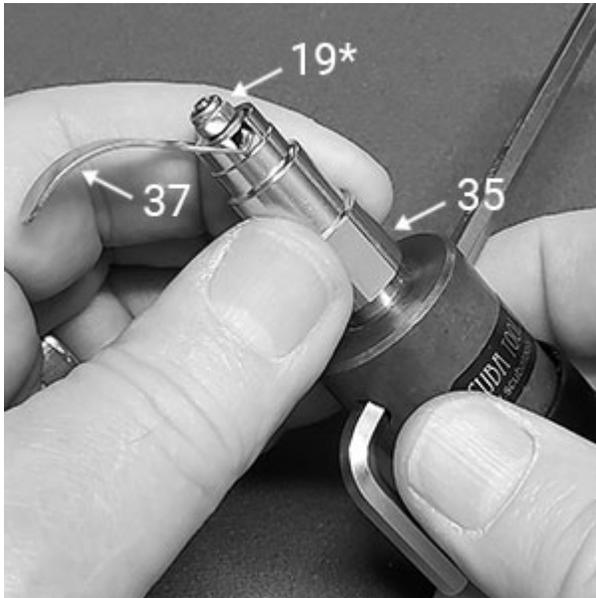
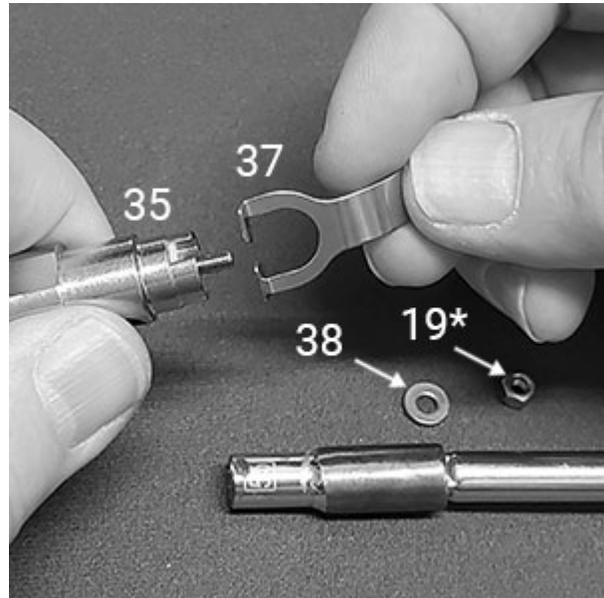

Fig. 23
Fig. 24
19. Thread the Spider 2 tool into the Valve Housing and screw it in until the lever just begins to drop - Fig. 23. Using a 5.5 mm nut driver, unscrew the Nut (19*), then remove the Washer (38) and Lever (37) - Fig. 24.